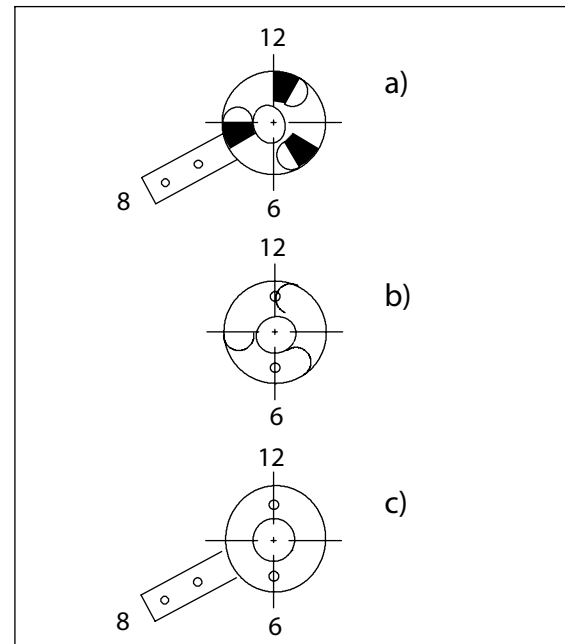
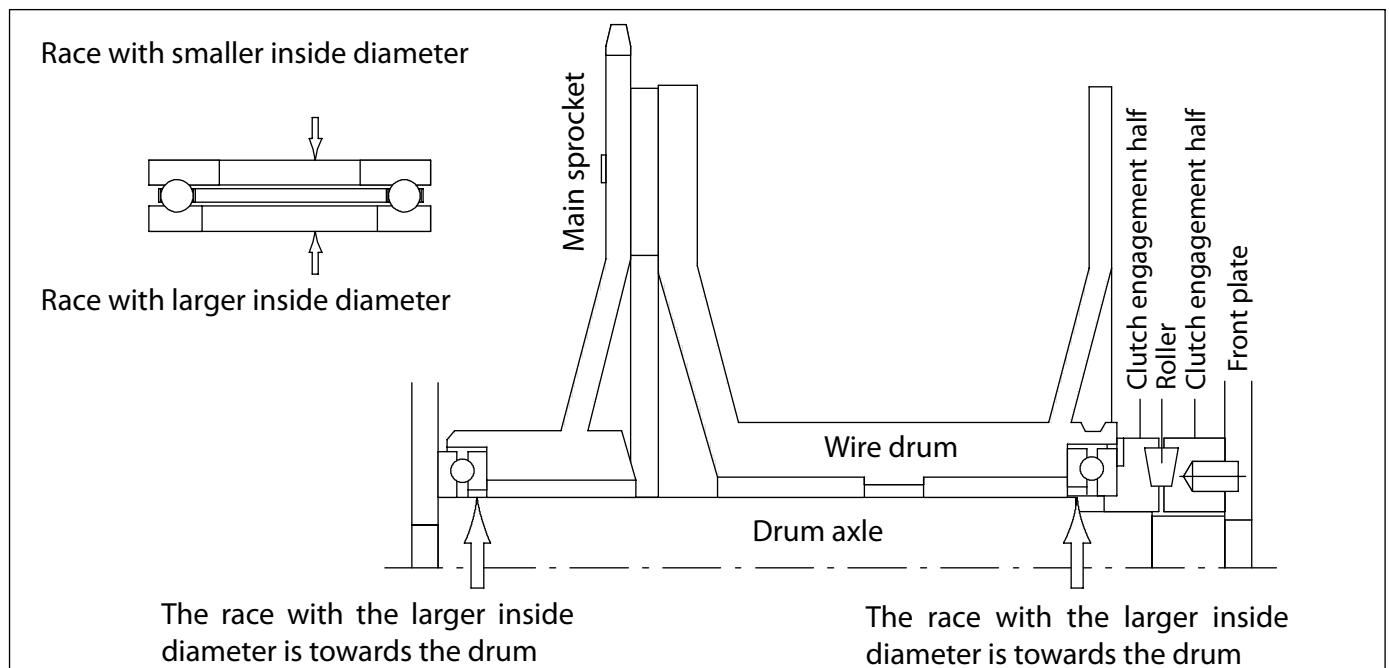

Fig. 20. Reassembling of the clutch engagement halves
Fig. 21. Correct positioning of the thrust bearings
Make sure that the both pressure bearings are installed in a correct position, that is, the bearing with bigger internal diameter should be facing the cable drum (figure 21). Make sure that the position of the two clutch engagement halves is correct (fig. 20).
2. Grease the 3 slanted surfaces with vaseline and place the 3 rollers on the bottom of the slanted surfaces so that the thin ends point towards the middle. The other clutch engagement half (without handle) has 3 slanted surfaces on one side and two holes drilled on the other side (fig 20). Two studs on the back of the front plate will fit into these holes later on when the winch is assembled.
3. Place one clutch engagement half (without the handle) so that the halves bottom out when the handle is at 8 o'clock position and the two holes are at 12 o'clock and 6 o'clock (fig. 20). Be careful, there is only one correct position! Tape the halves together so that htey will stay together when you mount them on the drum axle.